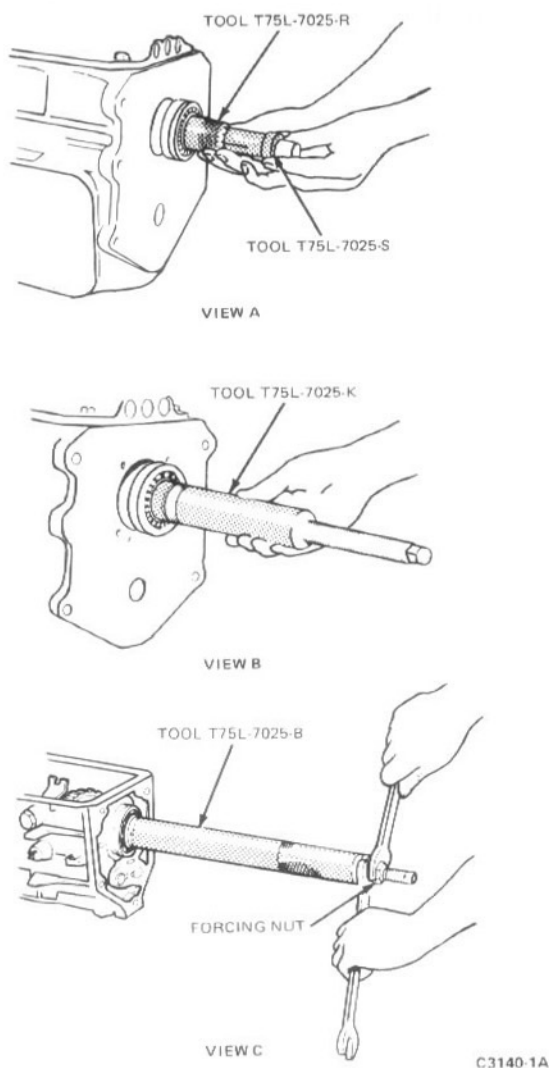

FIG. 14 Installing Input Shaft Bearing
14. Install the input shaft bearing using the tools shown in Fig. 14 and install the snap ring. Use the thickest select fit snap rings which will fit on the bearing.